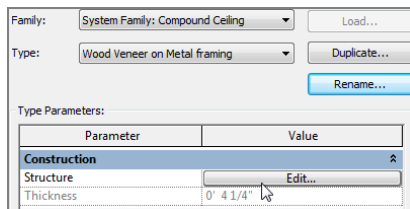

FIGURE 9.18: Clicking the Edit button in the Structure row to gain access to the ceiling's structural composition
6. In the Structure row, click the Edit button, as shown in Figure 9.18.